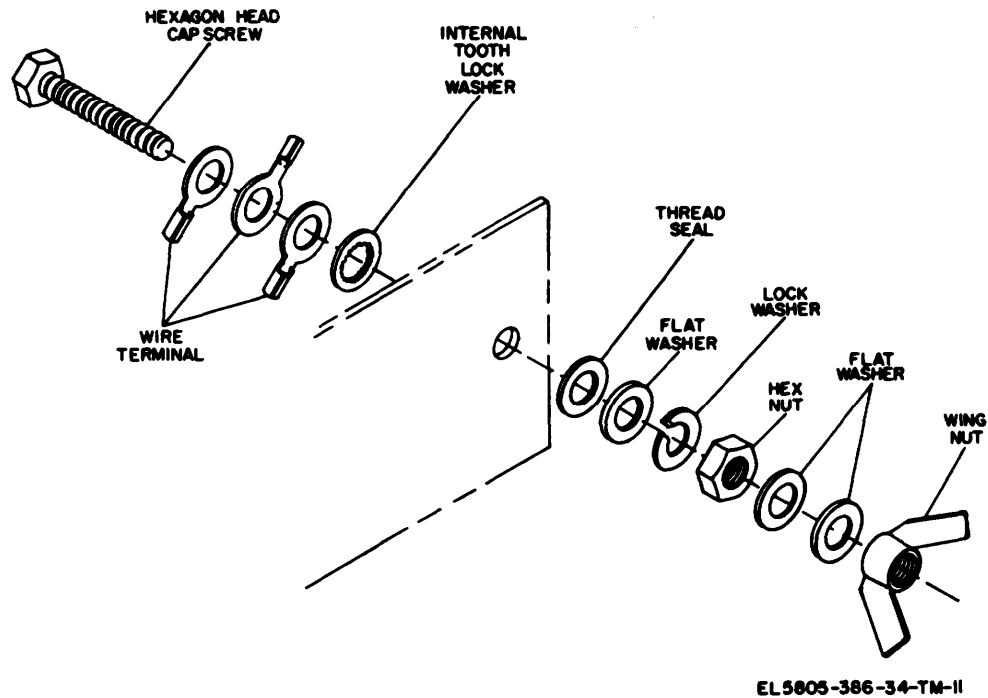

Figure 2-12. Ground lug replacement.
(1) Set li-rings, shoulder washer and binding post into rear panel.
(2) Slide washer and terminal lug over binding post stud and secure with nut.
(3) Reinstall main chassis (para 2-9d).
d. Removing GND Lug E15 Rear Panel (fig. 2-12).
(1) Remove main chassis from the case (para 2-9 *c*).
(2) Remove wing nut and two flat washers from ground lug.
(3) Remove hex nut, lock washer, flat washer, and thread seal from ground lug.
(4) Slide ground lug out of panel (from inside of chassis) and remove lock washer and two wire terminals.